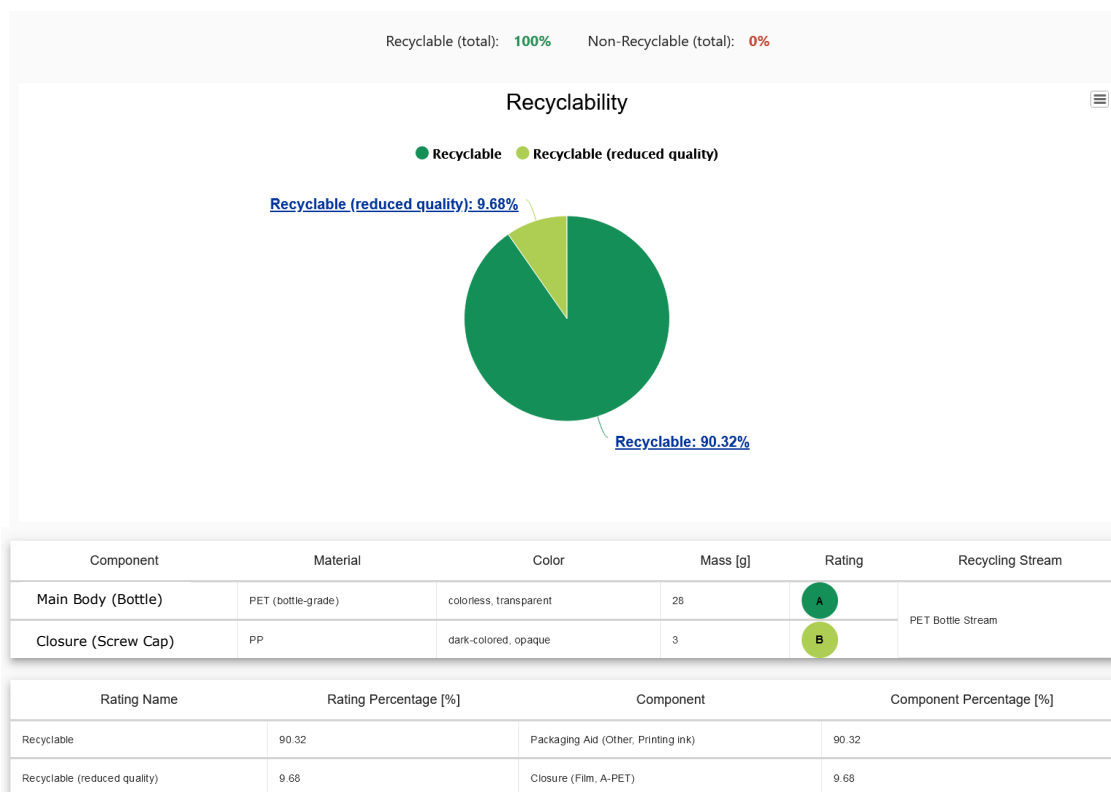

Figure 64: Results – Level packaging unit
63) and the packaging unit level shows the results in the same way as for a packaging unit calculation (Figure 64).